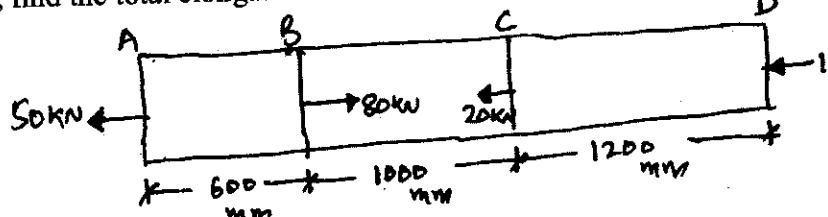

Fig. Q3 (b)
- b. A brass bar having cross sectional area of 1000 mm2, is subjected to axial forces as shown in Fig. Q3 (b), find the total elongation of the bar  $E = 1.05 \times 10^5$  N/mm2 (12 Marks)